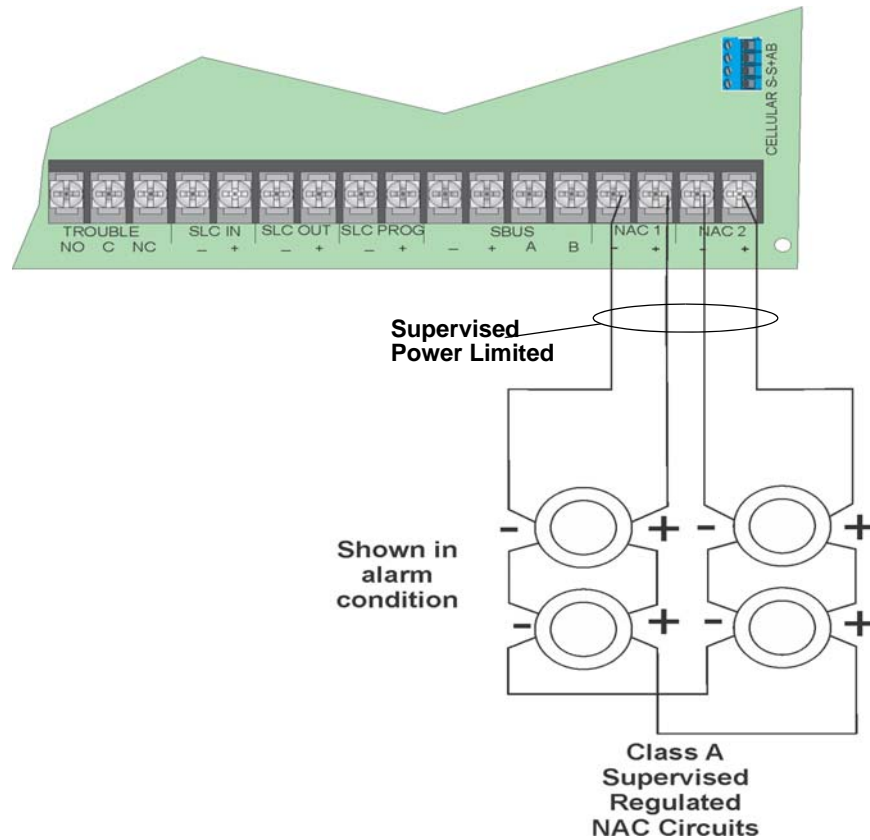

Figure 4-44 Class A Notification Appliance Circuit Configuration
- Wire the Class A notification appliances as shown in Figure 4-44.